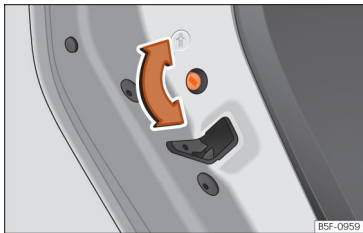

Fig. 58 Left door child lock.
- With the door open, turn the slot with the vehicle key clockwise for the left doors >>> Fig. 58 and anticlockwise for the right doors.
- With the door open, turn the slot with the vehicle key anticlockwise for the left doors >>> Fig. 58 and clockwise for the right doors.